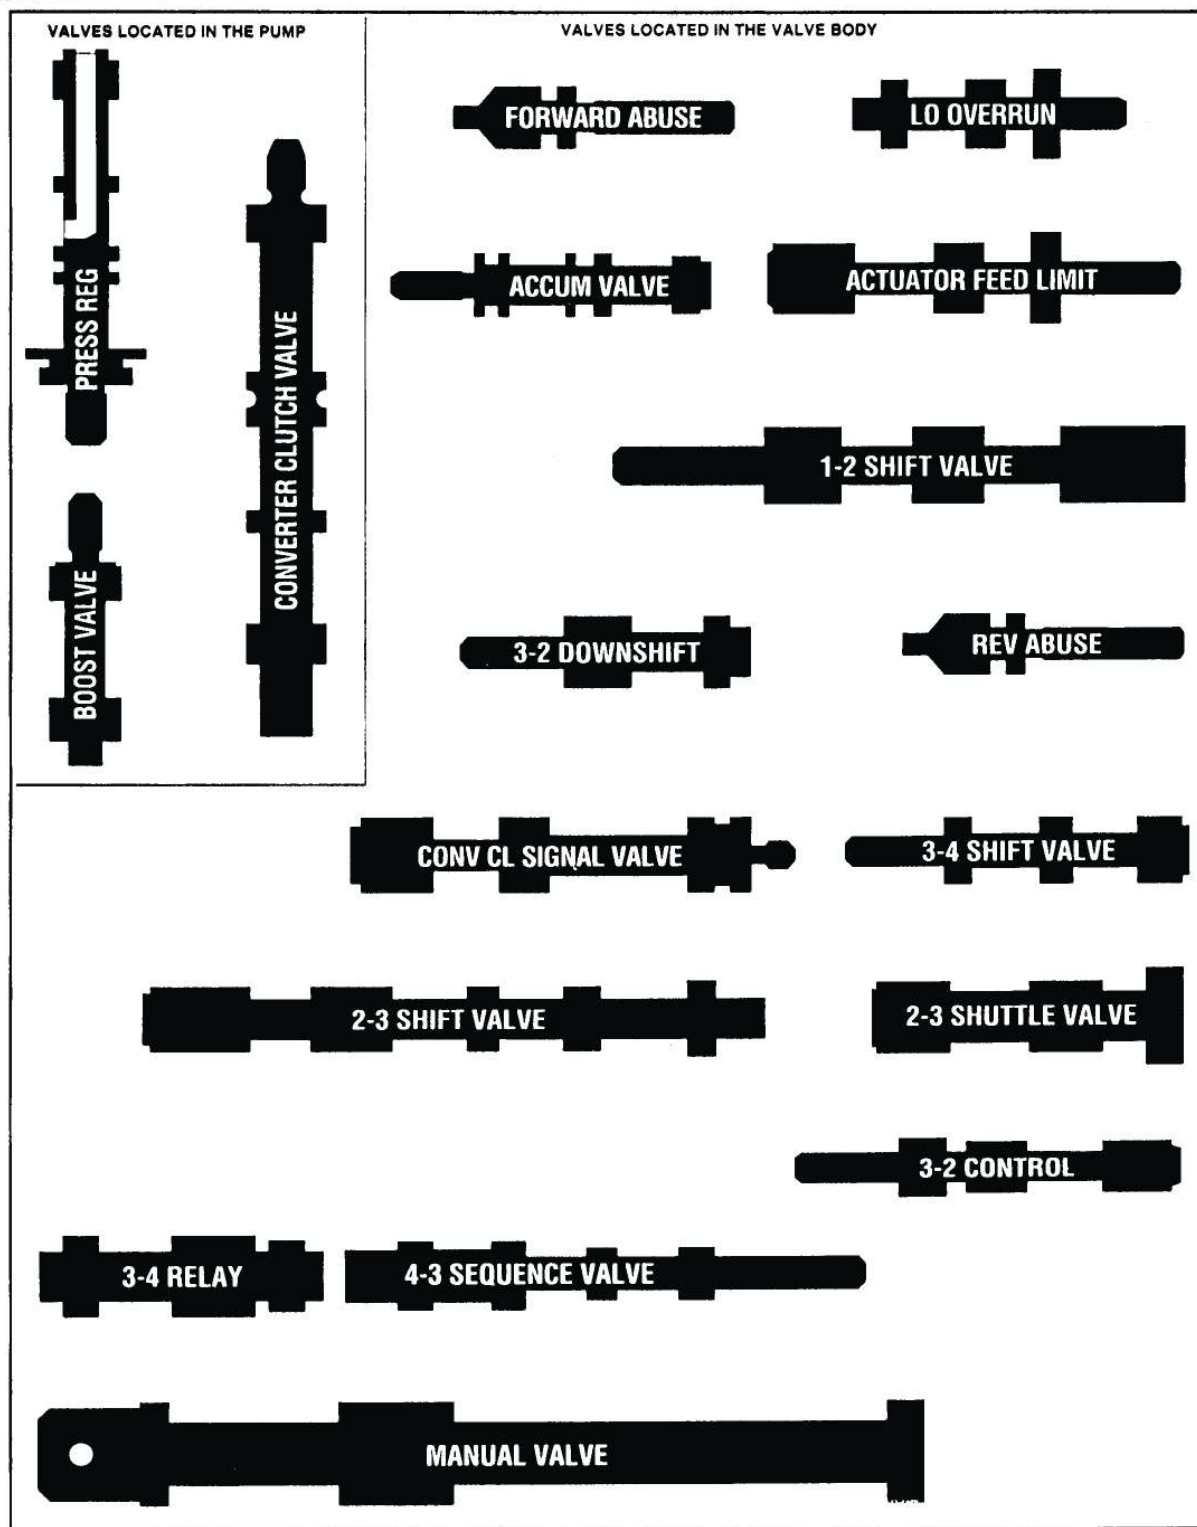

Figure 158
11. Use Figure 158 to identify any of the valves in valve body and pump.